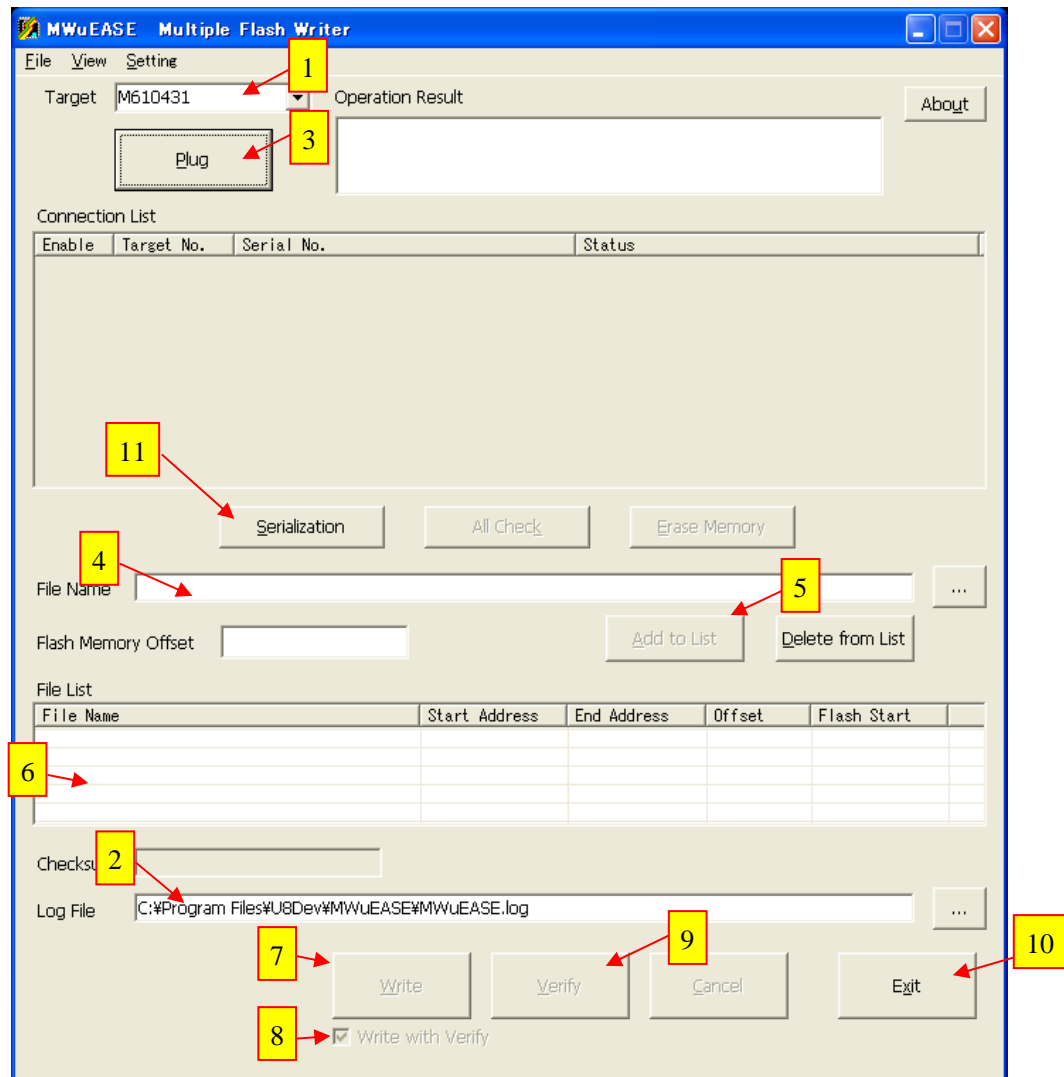
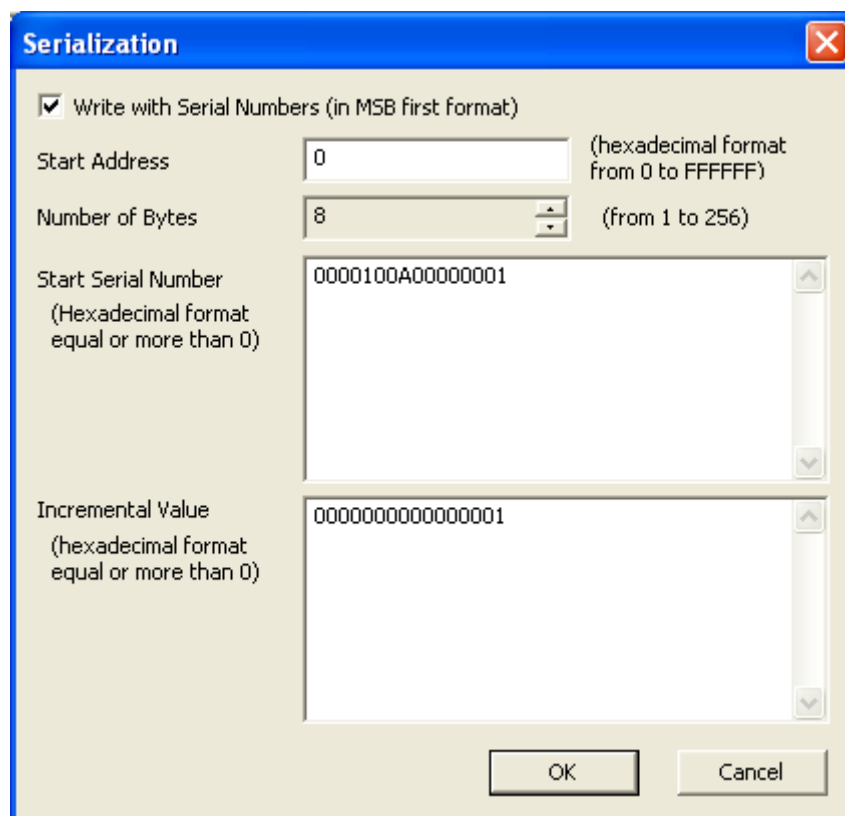

Fig.4-1 Main Dialog Box in Detail Mode
Fig.4-2-1 Serialization Dialog
Fig.4-1 shows Main Dialog Box in Detail Mode.
1. Select target LSI which is written by MWuEASE from the pulldown menu of the [Target] combo box (No.1 in Fig.4-1).
2. Specify the [Log File] field (No.2 in Fig.4-1) to record working events of MWuEASE.
3. Push on the [Plug] button (No.3 in Fig.4-1), then uEASE will be plugged into MWuEASE.
4. Specify the [File Name] field (No.4 in Fig.4-1). MWuEASE supports two types of formats, Extended Intel Hex or Motorola S2. After pushing on the [Add to list] button (No.5 in Fig.4-1), the specified file is added to the [File List] field (No.6 in Fig.4-1).
[Write] button (No.7 in Fig.4-1): After erasing Flash memory, write the specified HEX file.
[Verify] button (No.9 in Fig.4-1): Compare contents between Flash memory and HEX file.
When the [Write with Verify] check box (No.8 in Fig.4-1) is selected, pushing on the [Write] button will compare the contents of HEX file and the contents of Flash memory automatically after the writing, without pushing on the [Verify] button.
1. Push on the [Unplug] button (No.3 in Fig.4-1) to unplug MWuEASE and uEASE.
Push on the [Exit] button (No.10 in Fig.4-1), a confirmation dialog for termination will be popped-up. At this time, push on the [OK] button, MWuEASE will terminate.
3. Push on the [Plug] button (No.3 in Fig 4-1), then MWuEASE will be pulugged into uEASE
4. Push on the [Serialization] button (No.11 in Fig.4-1), then MWuEASE displays a dialog shown as Fig.4-2-1. Select your configuration then push on the [OK] button.
5. Specify the [File Name] field. MWuEASE supports two types of formats, Extended Intel Hex or Motorola S2. (No.4 in Fig.4-1) After pushing on the [Add to list] button (No.5), the specified file is added to the [File List] (No.6)